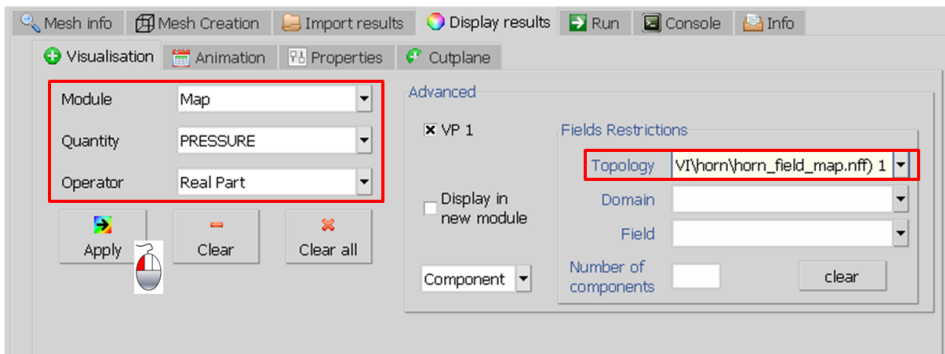

Figure 6.59: Plot the pressure results on the field mesh
When plotting the pressure result on the field mesh, the topology of the field mesh should be specified, as illustrated by Figure 6.59.
- *Plot the pressure results on the field mesh. (Figure 6.59)*